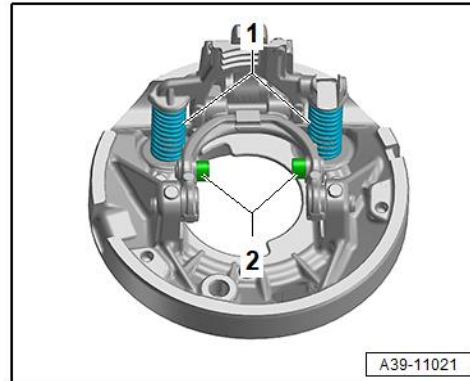

Figure 11. Shift fork assembly.
8. Remove the springs and save them for reinstallation (Figure 11, position 1).
Remove the roller sleeves (Figure 11, position 2).